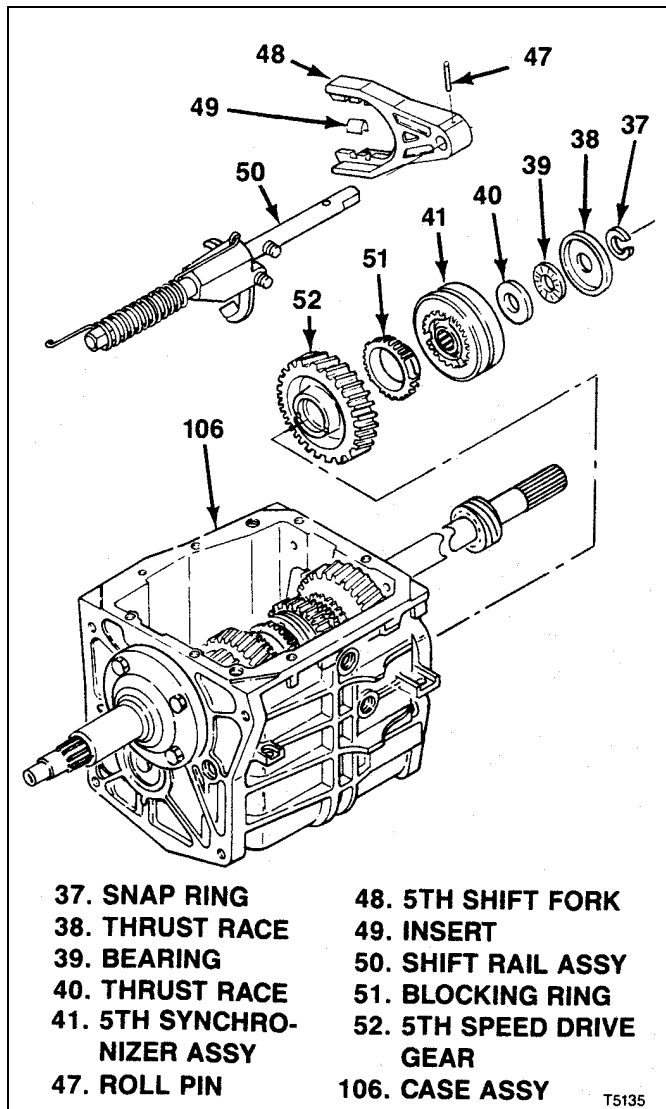

Figure 4-5. T5 STD 5th Synchronizer, Shift Fork and Gear
- c. Work 5-R shift lever (36) out of engagement and lift out top of transmission case (106).
4-11. REMOVAL OF T5 STD 5TH SYNCHRONIZER, SHIFT FORK AND GEAR. At rear of transmission case (106), remove parts as follows (see figure 4-5):
- a. Remove snap ring (37), thrust race (38), bearing (39) and thrust race (40).
- b. Simultaneously pull 5th synchronizer assembly (41) and 5th shift fork (48) with attached shift rail assembly (50).